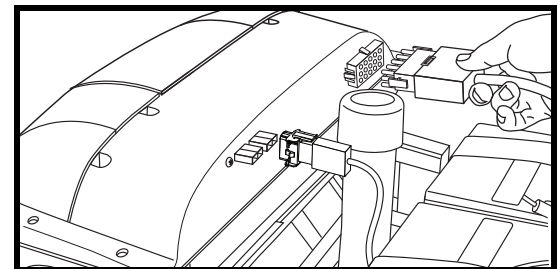

Figure 19. Disconnecting The Front-To-Rear Harness
6. Unplug the front-to-rear harness from its mating plug. See figure 19.